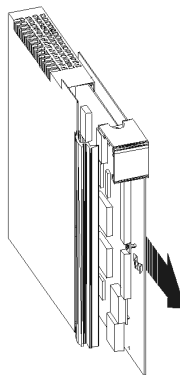

Figure 3. Remove Plate from Module
3. **Remove Plate from Module.** Carefully slide the plate (which has the circuit board attached to it) out of the module. See Figure 3 for plate location. Set the housing aside.
8. **Reinsert Plate.** Carefully slide the plate back into the module housing, making sure that everything but the plate itself goes inside the housing. (See Figure 3)